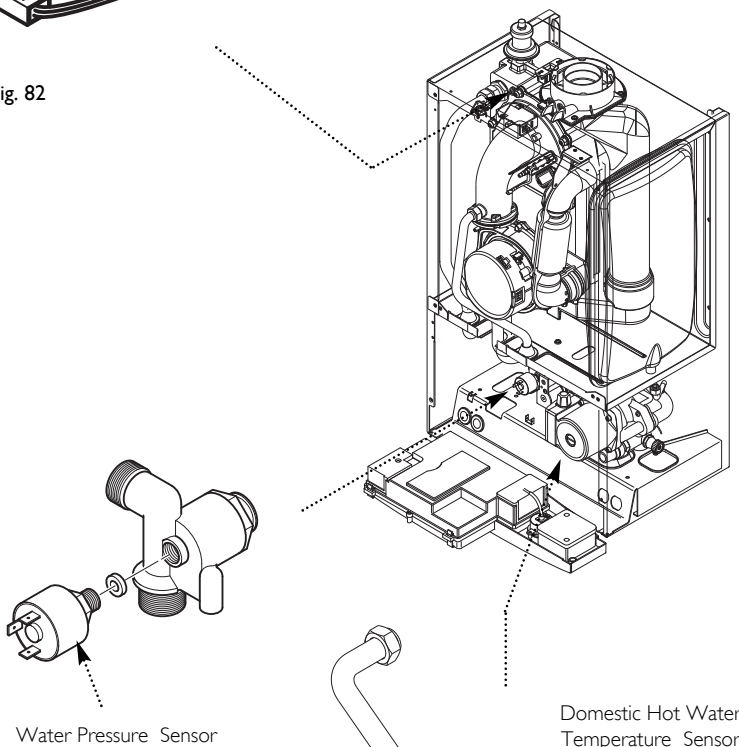

Fig. 83
14.9 Water Pressure Sensor (Fig. 83)
14.10 DHW Temperature Sensor (NTC) (Fig. 83)